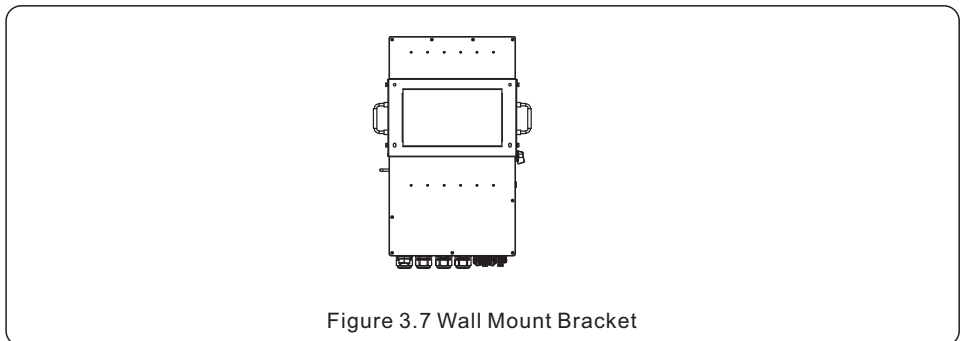

Figure 3.7 Wall Mount Bracket
2. Lift up the inverter (be careful to avoid body strain), and align the back bracket on the inverter with the convex section of the mounting bracket. Hang the inverter on the mounting bracket. Secure the inverter to the bracket using the provided screws. Tighten the screws to 4–5 Nm. (see Figure 3.7)